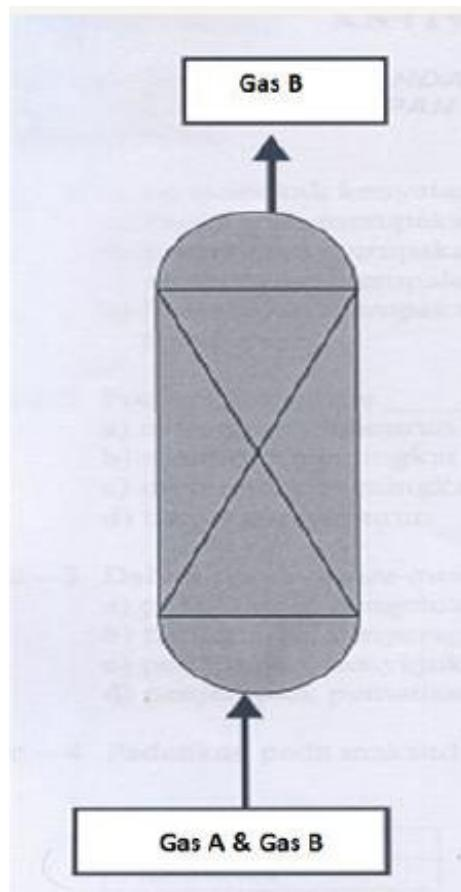

Figure 1(b) (i) / Rajah 1(b) (i)
- i. Based on Figure 1(b) (i) below, explain the adsorption operation on gas A and gas B.